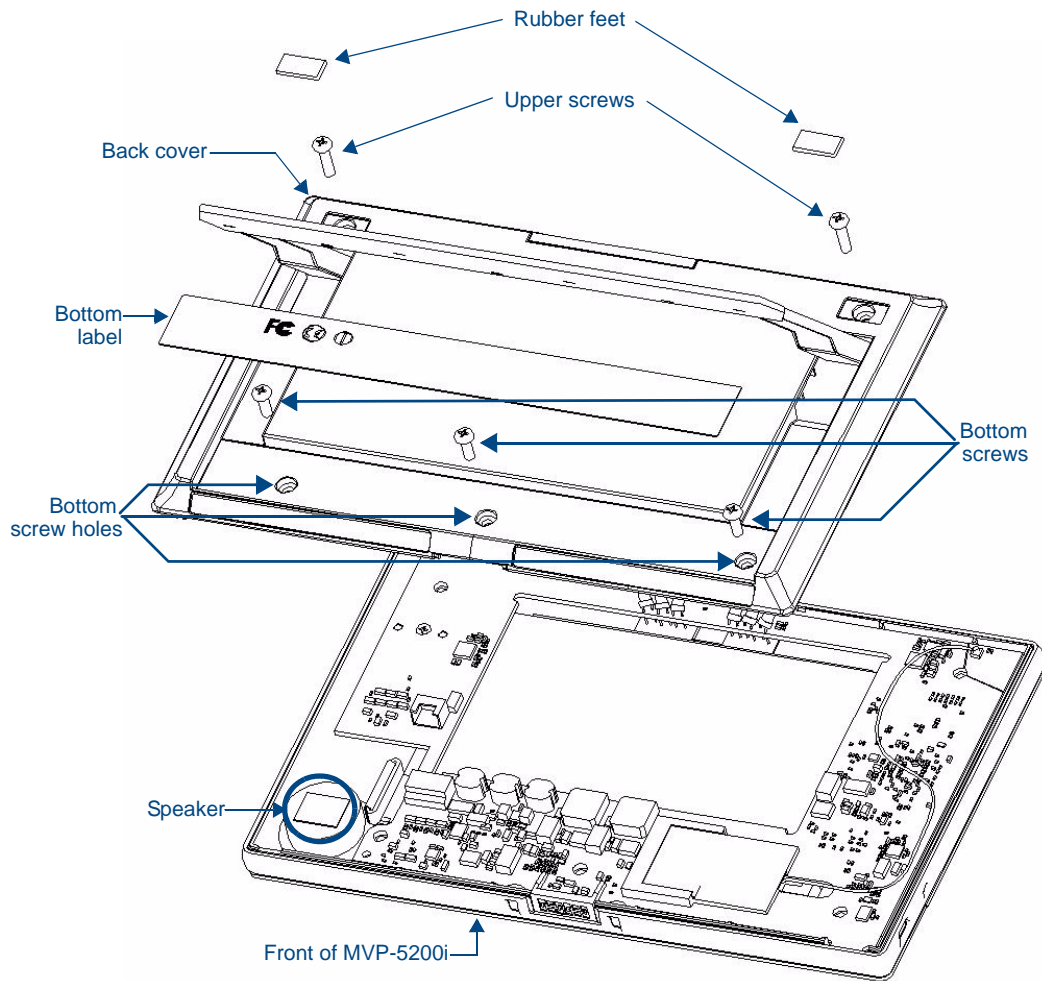

FIG. 4 MVP-5200i back cover installation
4. Insert the five screws and replace the rubber feet atop the two upper screws, using the replacement rubber feet included in the Battery Pack Kit (FIG. 4).